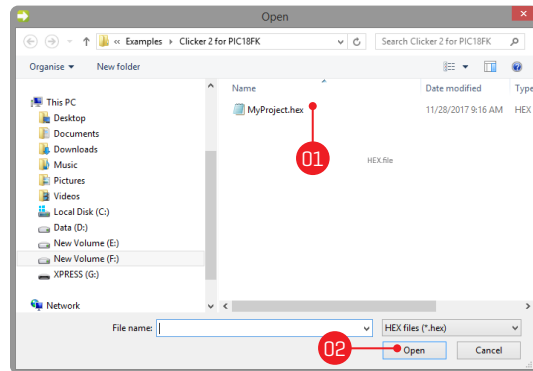

Figure 3-4: Selecting HEX
- 01 Click the Browse for HEX button and from a pop-up window [Figure 3.4] choose the .HEX file which will be uploaded to MCU memory.